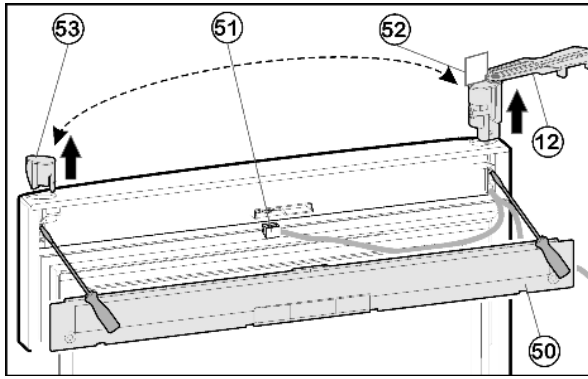

Fig. 9
- ▶ Using a screwdriver, remove the cover Fig. 9 (50) on the door.
- ▶ Disconnect the plug connector Fig. 9 (51).
- ▶ At the upper door, rotate the turn hinge Fig. 9 (12) in an outward direction, parallel to the door edge.
- ▶ Using a screwdriver, push out the turn hinge Fig. 9 (12) from underneath and remove it from the door complete with cable.
- ▶ Using a screwdriver, push out the stopper Fig. 9 (53) from underneath and transfer it to the opposite side.
- ▶ Feed in the cable of the turn hinge Fig. 9 (12) at the opposite side and insert turn hinge.
- ▶ Remove the template Fig. 9 (52) and fasten it in the turn hinge.
- ▶ Plug in the plug Fig. 9 (51).
- ▶ Engage the cover Fig. 9 (50) on the door.